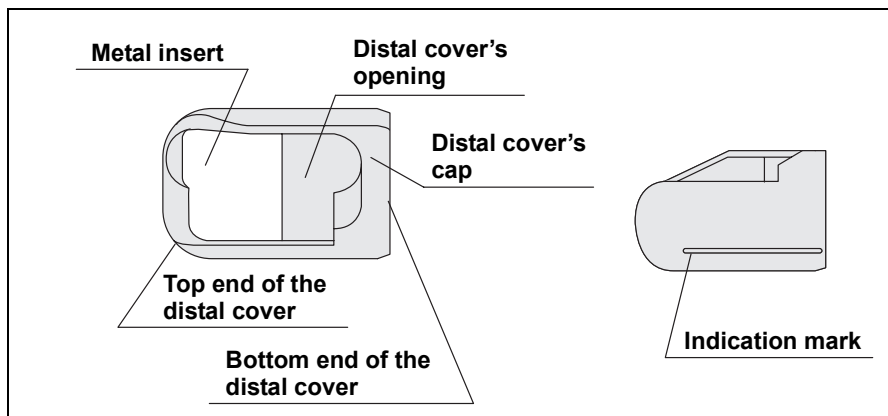

Figure 3.10
1. Confirm that the metal insert of the distal cover is intact (see Figure 3.10).